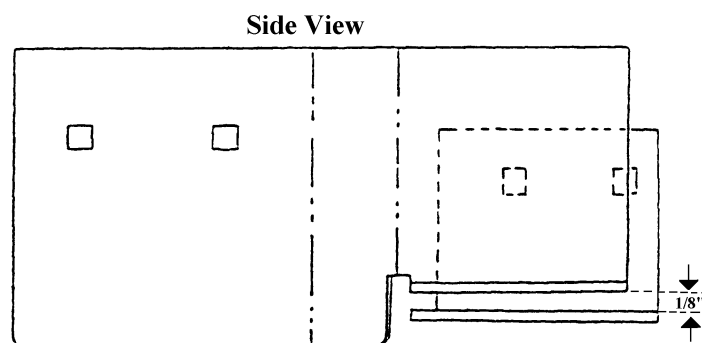

Figure 5
8. Leave at least  $\frac{1}{8}$ " of space between the lock latch and the lock strike. (See figure 5 below.)